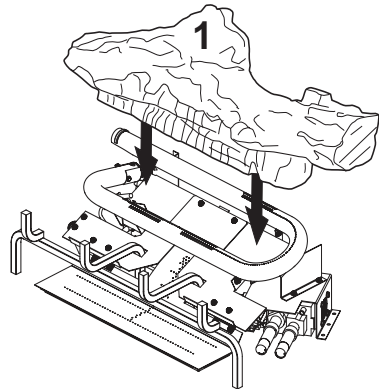

Figure 24 - Installing Log #1
1. Place rear log (#1) on base assembly as shown in Figure 24. Log will fit over right end of burner and rest in middle of U-burner.